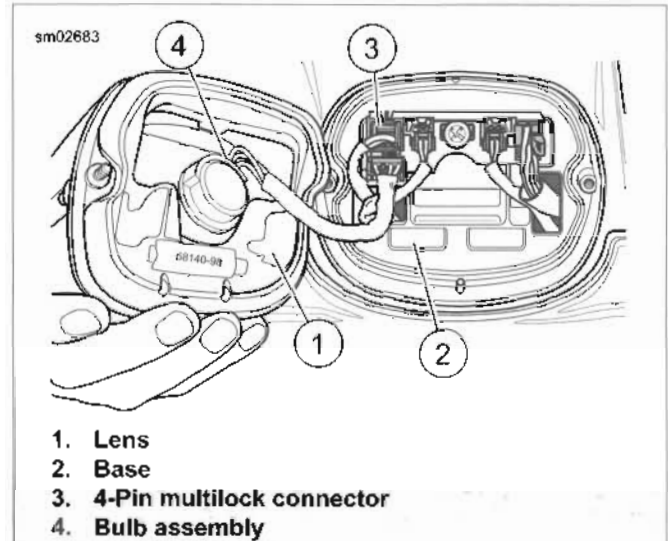

Figure 7-35. Tail Lamp: FLSTC, FLSTF/B
- See Figure 7-35. Remove two screws and lens (1) from base.
- Press locking tab and remove 4-Pin multilock connector (3) from circuit board.